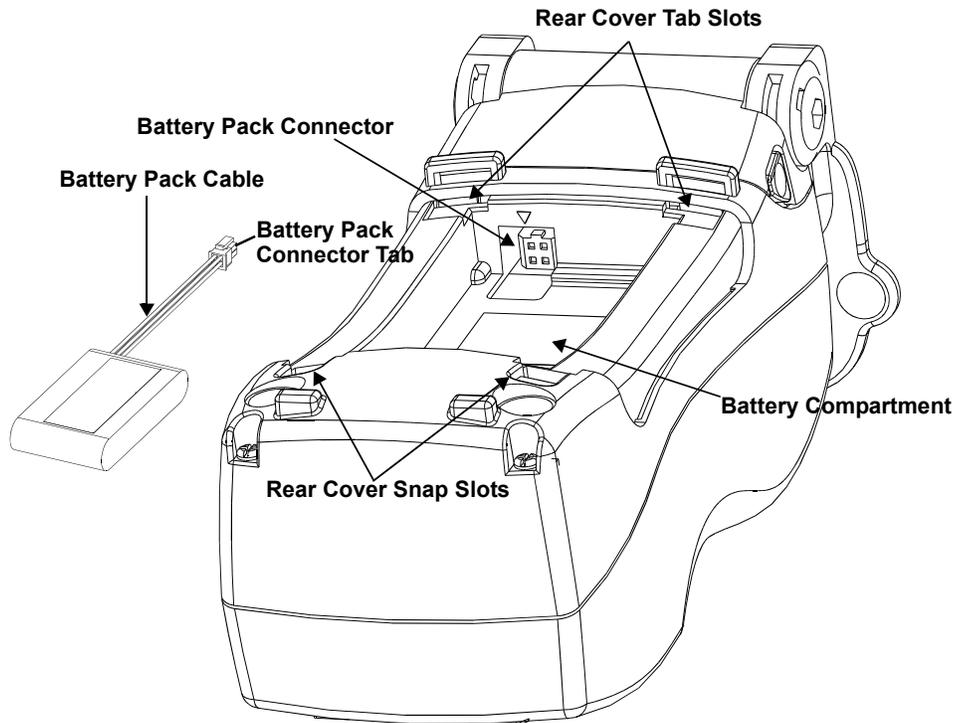

Figure 4-5. Battery Connection
5. Insert the Battery Pack Cable into the connector located inside the battery compartment. You should feel the connector snap into place. See Figure 4-5.